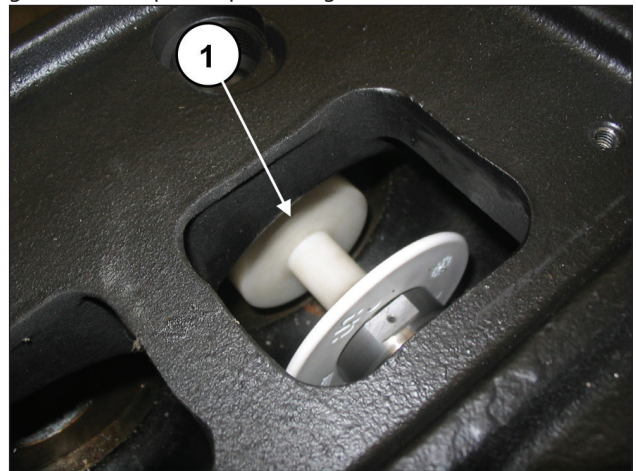

Fig. 123
Insert the buffering tool code 27516600 between the piston guide and the piston (pos. ①, Fig. 123).